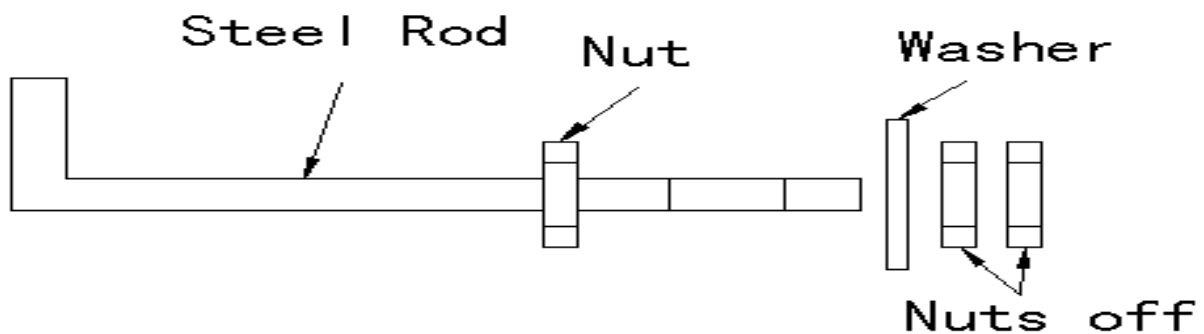

Figure 1
- A. Take off the two nuts and two washers from the steel rod. See Figure 1.